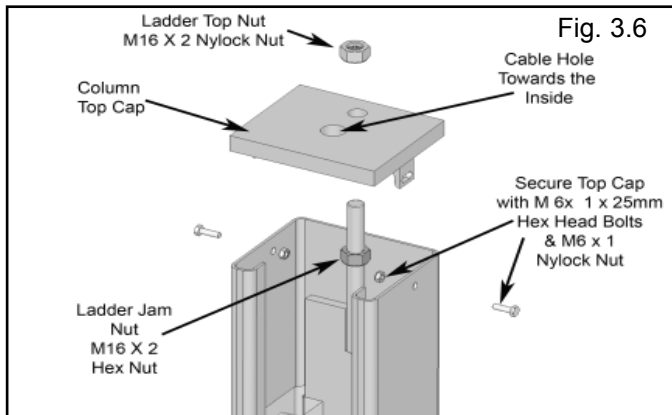

Fig. 3.6
6. Install the Column TOP CAPS using the M10 X 1.50 X 50 hex bolts, nuts & washers. Install the nut on each Safety Ladder until 1/2" of threads are exposed and the ladder is raised at least 1/2" off of the base of the Column. **NOTE: Raise the ladder at least 1/2" off of the base of the column or damage to the lift will occur.** Be sure to position the cable hole INWARD. (See Fig. 3.6 -3.7)